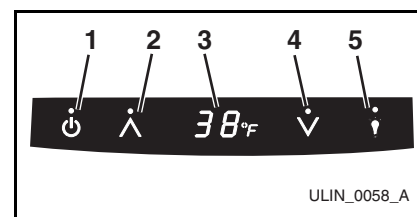

Figure 4
The electronic control with digital display (Figure 4) is configured to show a single temperature continuously. This set-point temperature is a base number used by the controller to maintain the temperature zone in your unit. The factory default set-point is 38°F. This set-point temperature is used as a gauge if further temperature adjustments are required.
U-Line products supplied for 110 VAC operation have temperatures displayed in a default Fahrenheit (°F) configuration (Figure 4, 3). Models supplied for 220 VAC operation have temperatures displayed in a default Celsius (°C) configuration.
The display can easily be adjusted for either type of temperature display. Press and hold the LIGHT icon (Figure 4, 5) and within five seconds press the COOLER icon (Figure 4, 4) three times to change the display as desired.
1. Touch and hold the WARMER icon (**Figure 4, 2**) for approximately five seconds and release when the °F symbol in the display (**Figure 4, 3**) begins to flash.
2. The display (**Figure 4, 3**) will indicate the actual refrigerator temperature.